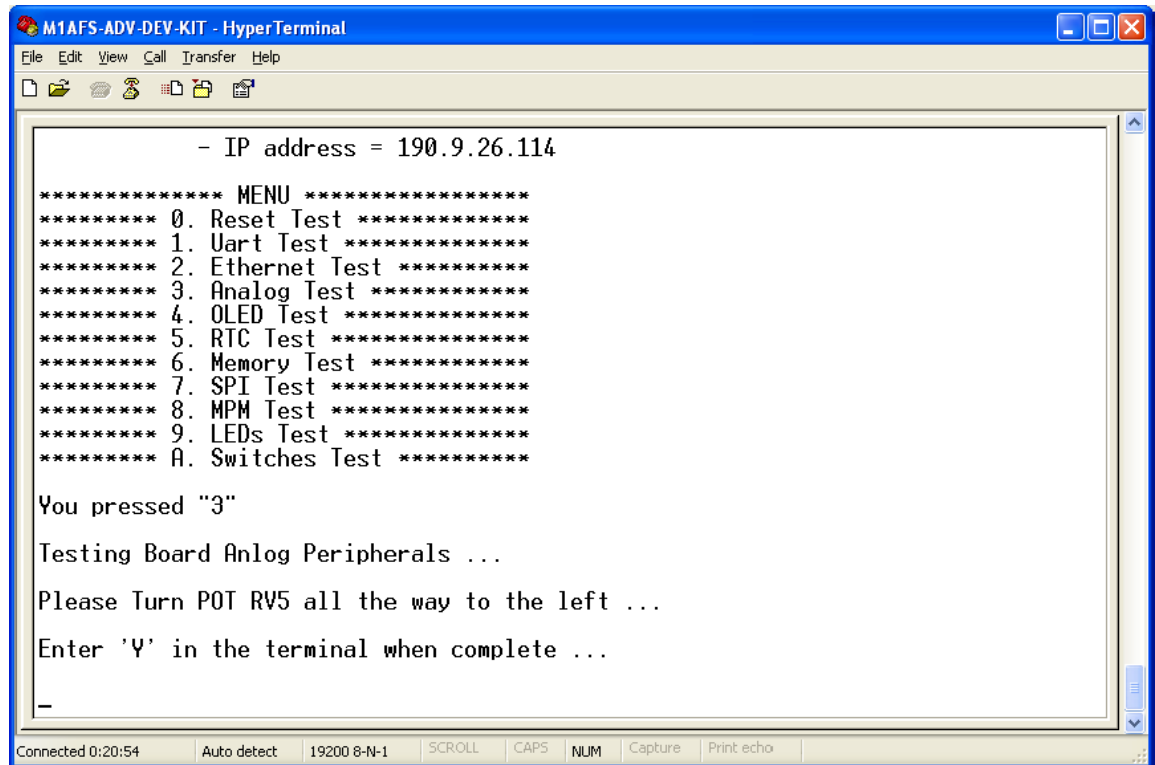

Figure C-15 · Peripherals Test
7. Enter 3 into the terminal to begin the Analog Test. The screen shown in Figure C-15 should appear.